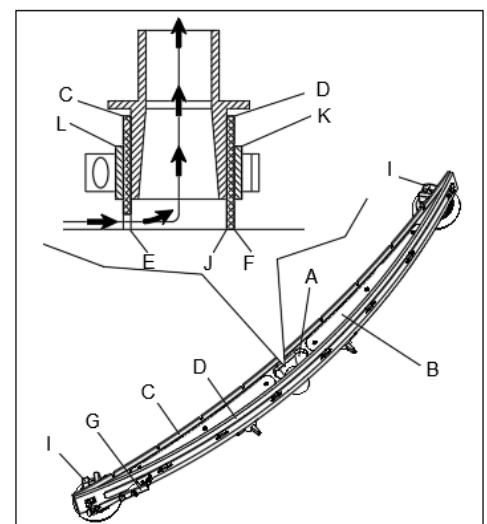

Figure 18
2. Check that the edges (E, Figure 18) of the front blade (C) and the edges (F) of the rear blade (D) lay down on the same level, along their length; if necessary, adjust their height according to the following procedure:
- Remove the tie rod (G), disengage the fasteners (M) and adjust the rear blade (D), then engage the fasteners (M) and install the tie rod (G).
- Loosen the knobs (I) and adjust the front blade (C), then tighten the knobs.
3. Check the front blade (C) and rear blade (D) for wear, cuts and tears; if necessary, replace them according to the following procedure. Check that the front edge (J) of the rear blade (D) is not worn; if necessary, turn the blade over to replace the worn edge with an integral one. If the other edges are worn too, replace the blade according to the following procedure:
- Remove the tie rod (G), disengage the fasteners (M) and remove the retaining strip (K), then replace the rear blade (D). Assemble the blade in the reverse order of disassembly.
- Unscrew the knobs (I) and remove the retaining strip (L), then replace the front blade (C). Assemble the blade in the reverse order of disassembly. After the blade replacement (or turning over), adjust the height as shown in the previous step.
4. Connect the vacuum hose (A, Figure 18) to the squeegee.
5. Install the squeegee (B) and screw down the knobs (C).